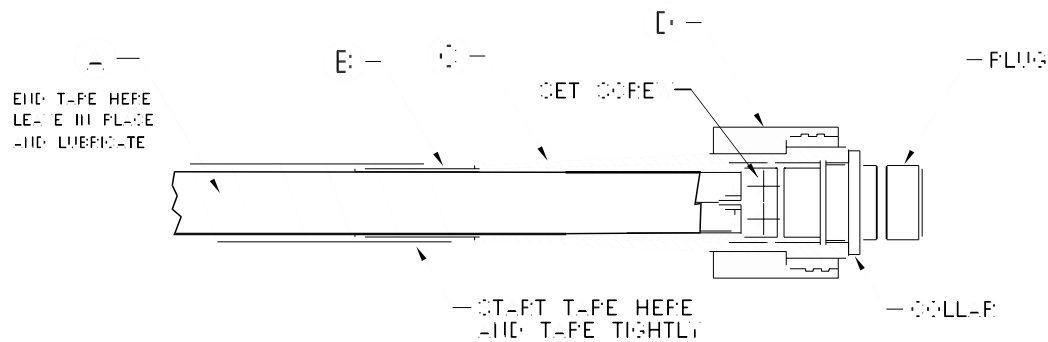

FIGURE 6
Using a 5/64" Allen Wrench tighten the set screws (Fig. 6).
g) Slide the Inner Cable Boot (Part B) over the plug until it is flush with the first step on the collar (Fig. 6).
Slide the Outer Cable Boot (Part C) over the Inner Cable Boot until it is flush with the second step on the collar (Fig. 6).